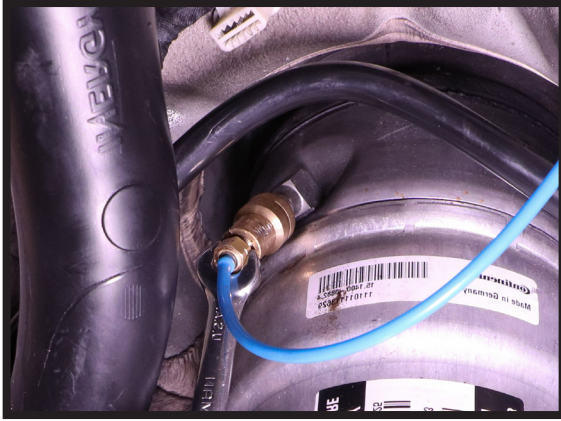

FIGURE 12
9. REMOVE THE AIR LINE AND CHECK VALVE FROM OE STRUT TO RELEASE AIR PRESSURE. (FIGURES 12, 13, 14)